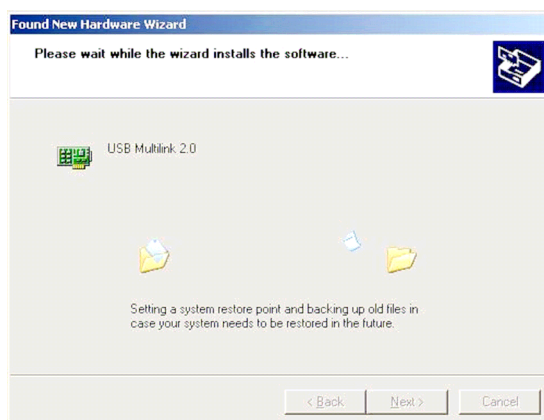

Figure 6. Found New Hardware Wizard (Screen 2)
10. Installation will begin with the Found New Hardware Wizard (Screen 2) illustrated by Figure 6. No user action necessary until software is completed installing.